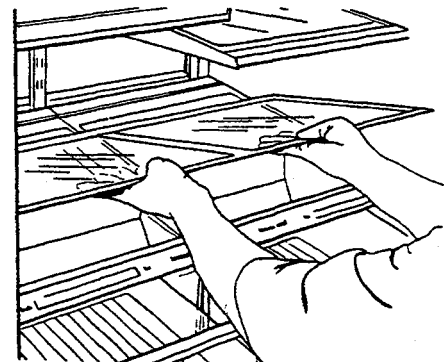

Figure 33
- Open drawer of left* hand crisper. Place one hand underneath the glass shelf. Push up. Grasp shelf with other hand. Tilt glass upperward at one end and remove from refrigerator. See Figure 33.